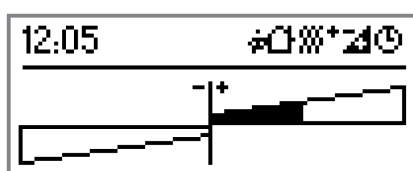

Figure 62: Example of a 2-area display with basic setpoint shifting as a bar graph
- i** In the display function "Setpoint shift as bar graph" (Figure 62) it is not possible to configure any supplementary texts.
With relative setpoint presetting, the push button sensor allows step-by-step shifting of the setpoint temperature within defined limits. This setpoint shift can be performed either using the display buttons (see page 18-19) or using controller extensions in the positive (+) or also in the negative (-) direction. Whether a basic setpoint shift has been performed (i.e. the shift is not equal to "0") in the 2-area display is indicated using the  icon. Optionally it is possible to display the setpoint shift in the form of a bar graph (Figure 62). In this case the bar graph accounts for the entire menu area, which means that other display functions can no longer be displayed in this display area.